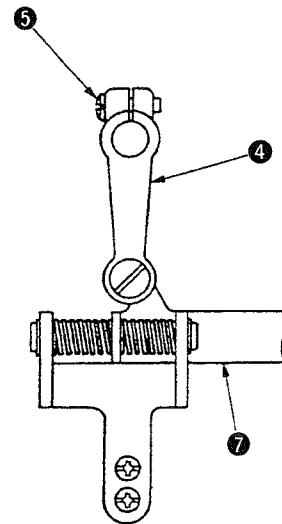

Fig. 50
<ol style="list-style-type: none"> 1. Turn the handwheel to bring the needle bar to the lowest dead point. 2. Press conversion fixing lever ① to release conversion lever ②. 3. At this time, confirm that section A of conversion lever ② is aligned with the "0" position of thread tension plate ③. 4. If they are not aligned with each other, loosen conversion shaft clamping screw ⑤ as illustrated in Fig. 50, and align section A of conversion lever ② with the "0" position of thread tension plate ③. Then, firmly tighten conversion arm clamping screw ⑤. <p>(Caution)</p> <ol style="list-style-type: none"> 1. Do not loosen two screws ⑥ in the conversion lever. 2. When tightening conversion arm clamping screw ⑤, using conversion lever ② and conversion arm ④. If there is a play at the clamping screw, conversion lever ② will be pushed against conversion plate ⑦. In this case, the function to stop either needle bar separately will not work normally, the separately-stopped needle will not be released from the stop state or needle bar breakage will occur. 	<p>If the initial position of the conversion lever is not correct, the function to separately drive the needle bars will not work properly.</p>